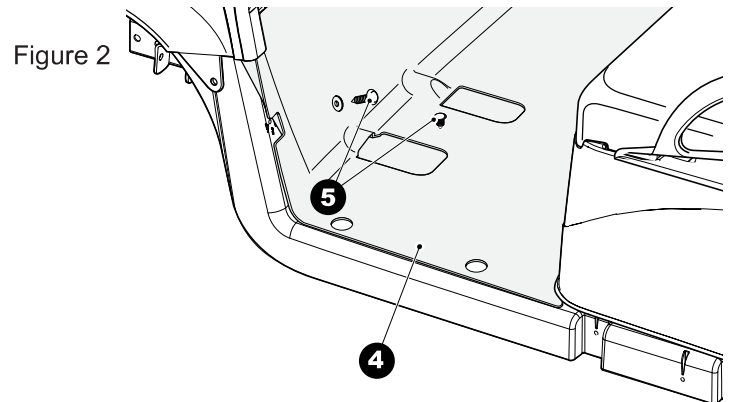

Figure 2
6. Remove the seven Christmas tree rivets (5) securing the floor mat (4) to the floorboard See figure 2.